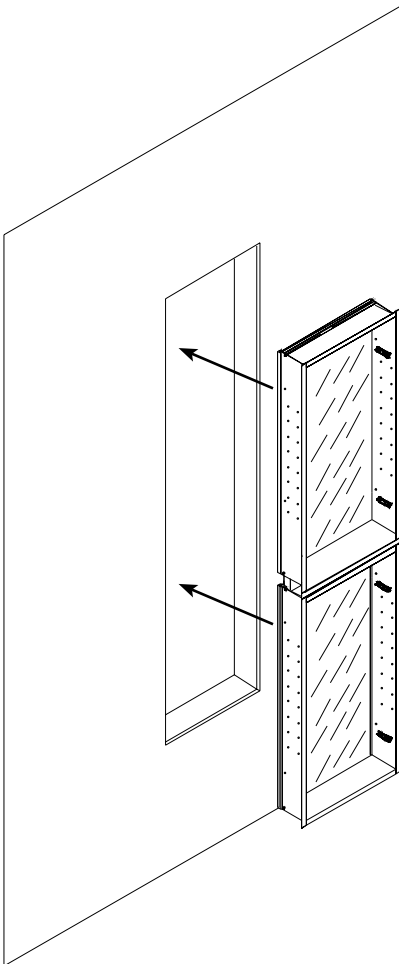

FIG 3
7. Place cabinet boxes into rough opening (Fig 3). On fully recessed applications, make sure cabinet flange covers rough opening evenly all around. Shim as needed. On semi-recess applications, BE CAREFUL to not hit edges of installed side mirrors. Mirror edges should meet wall surface.